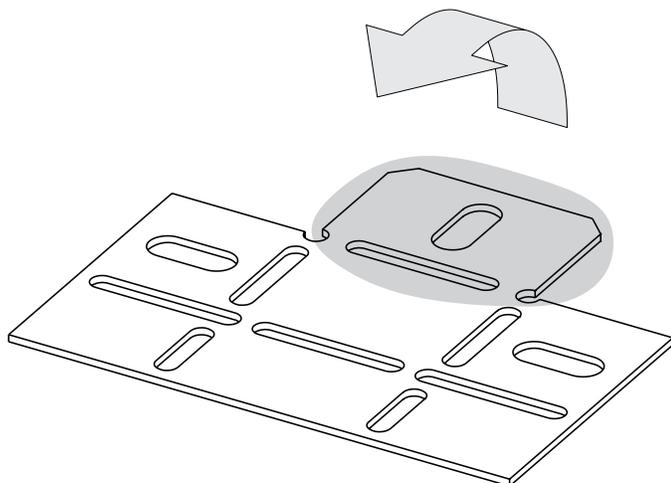

Figure 1
7. Bend the upper liner retainer brackets as shown in **Figures 1 and 2.**
10. To secure the lower front corners of the side liner panels, bend one tab on the bottom retainer clips to match the angle of the side liner panel as shown in **Figure 1**.